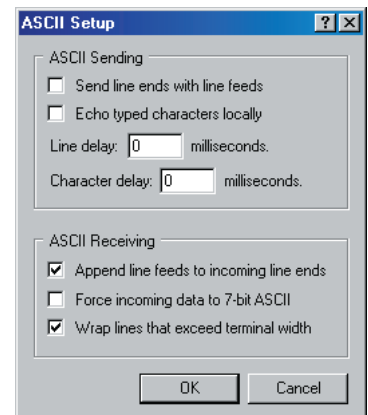

Figure 32. ASCII Setup
7. In the **ASCII Setup** window (Figure 32), select the following settings: